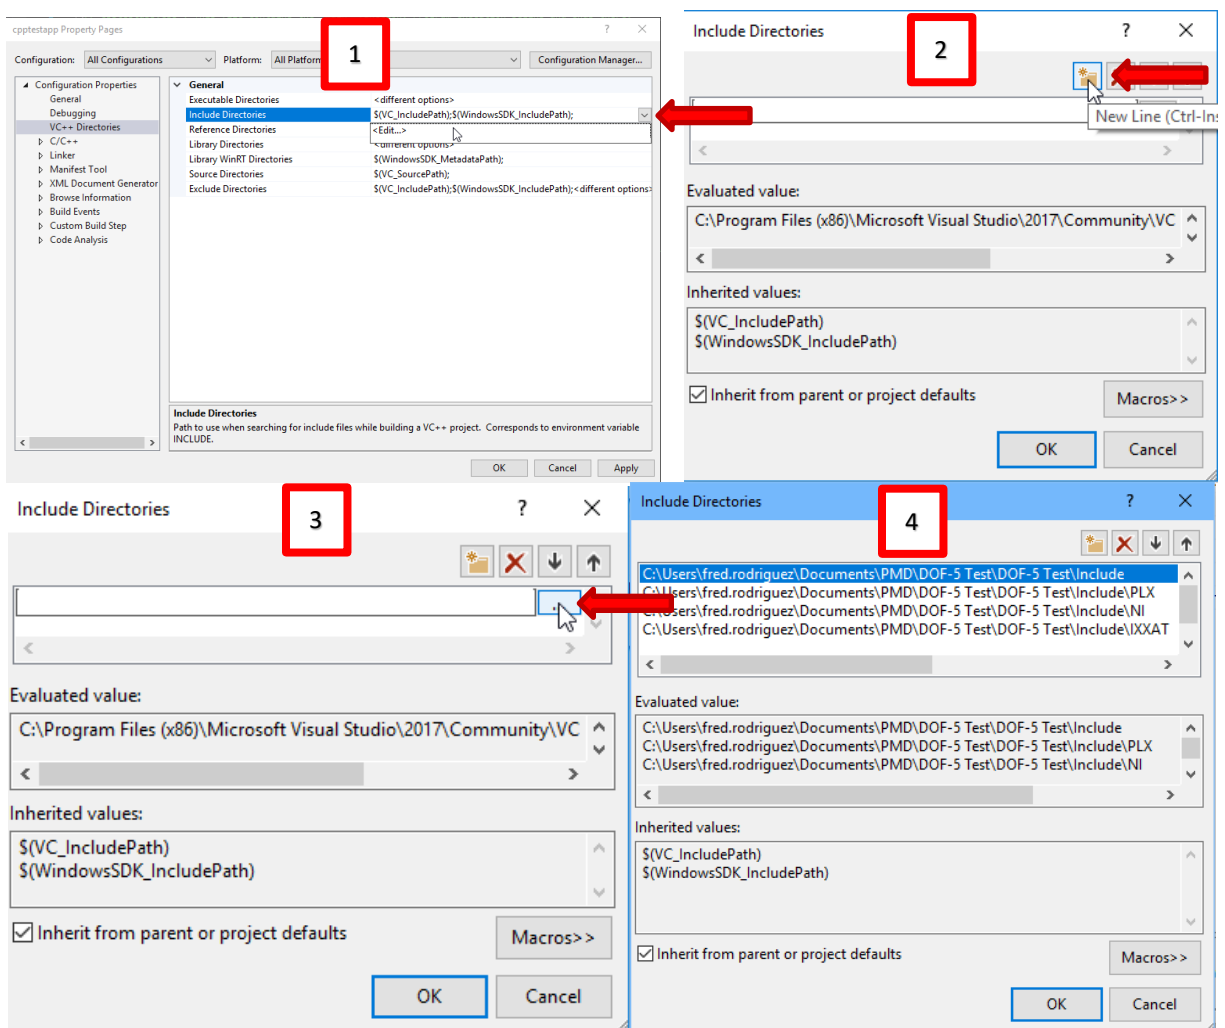

Figure 34 - VS2019 VC++ Directories
- VC++ directories – include directories – add the following folders per Figure 34 - VS2019 VC++ Directories